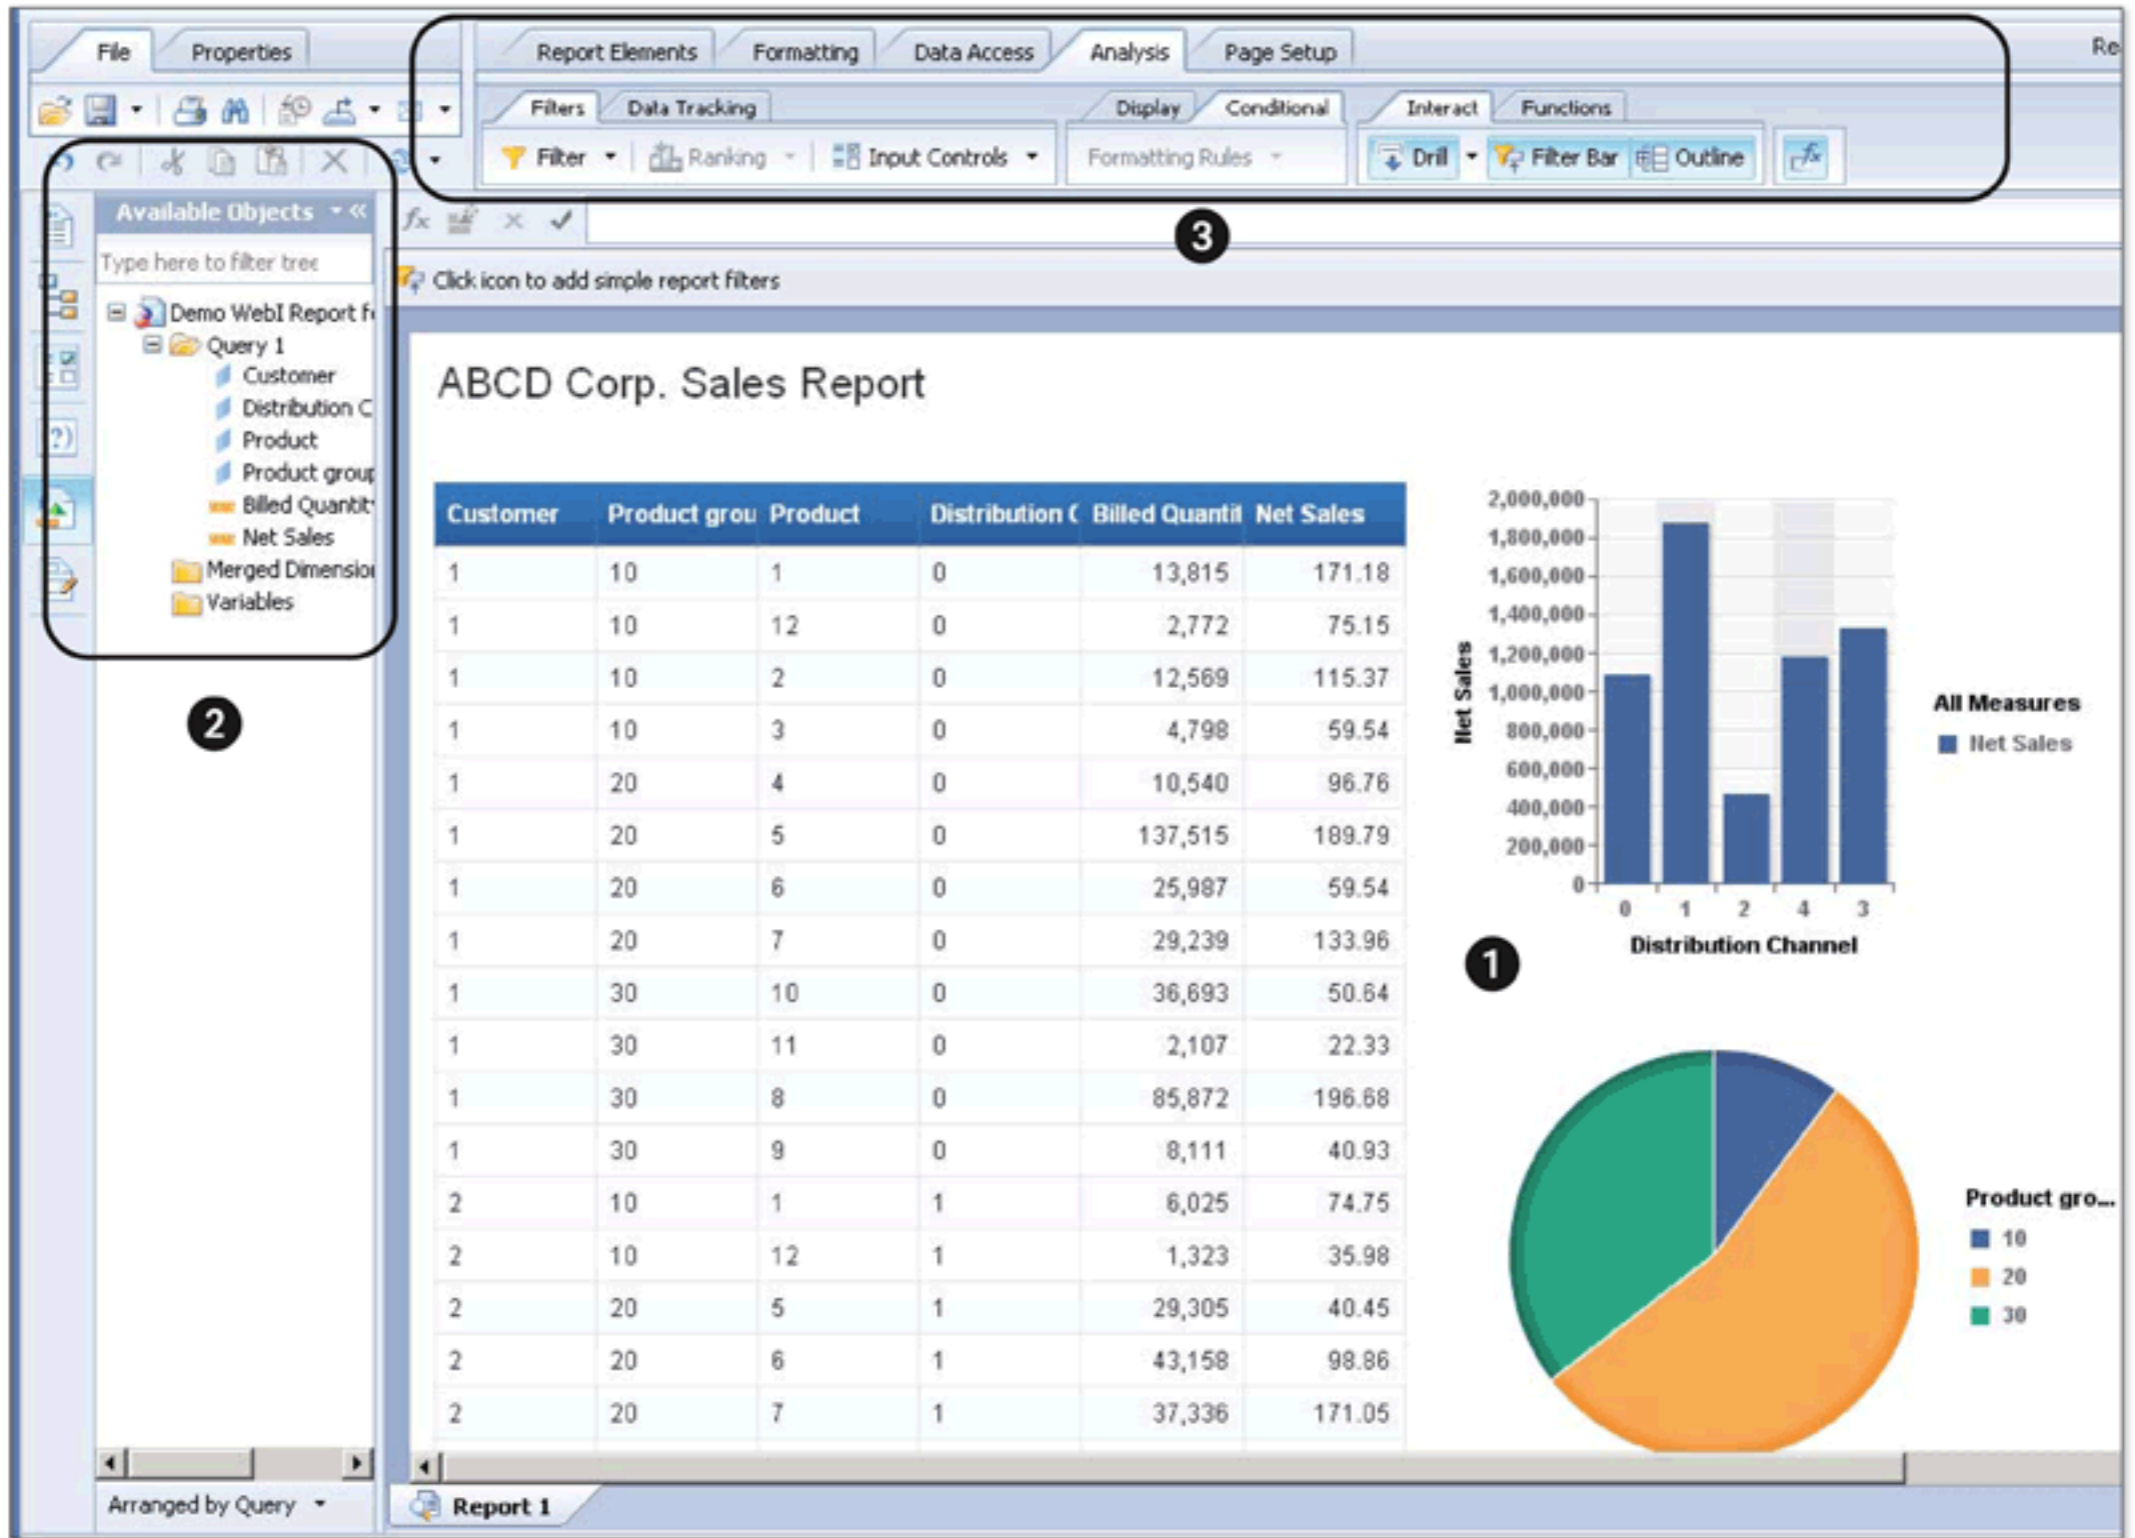

Figure 13.10 Example of Reporting with SAP BusinessObjects Web Intelligence
SAP BusinessObjects Web Intelligence is one of the most widely used SAP BusinessObjects reporting tools. Users are empowered to build their own analysis (❶ of Figure 13.10), and all of the objects from the underlying universe and other sources are available for creating reports (❷).
Apart from ad hoc analysis, this tool has several options to further customize reports. These include display, formatting, charts, filters, and so on, (❸ of Figure 13.10) that offer additional choices to the user to create an effective report.